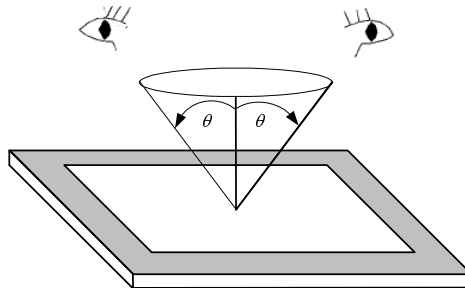

Fig. 11.1
- The viewing zone is defined with angle θ shown in Fig.11.1 The inspection should be performed within 45° when display is shut down. The inspection should be performed within 5° when display is power on.